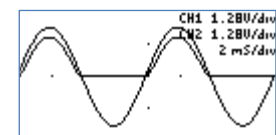

Figure 66: Removing the capacitor
- 6) If the capacitor is removed, the display should look like figure 66.